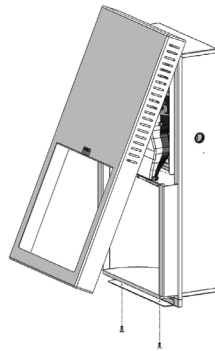

Fig. 1
1. Loosen dryer cover by removing the mounting screws located at the bottom of the unit using a Torx T20 bit. (See Fig. 1)
2. Pull bottom side of dryer cover forward and lift up carefully to disengage dryer cover. (See Fig. 1)